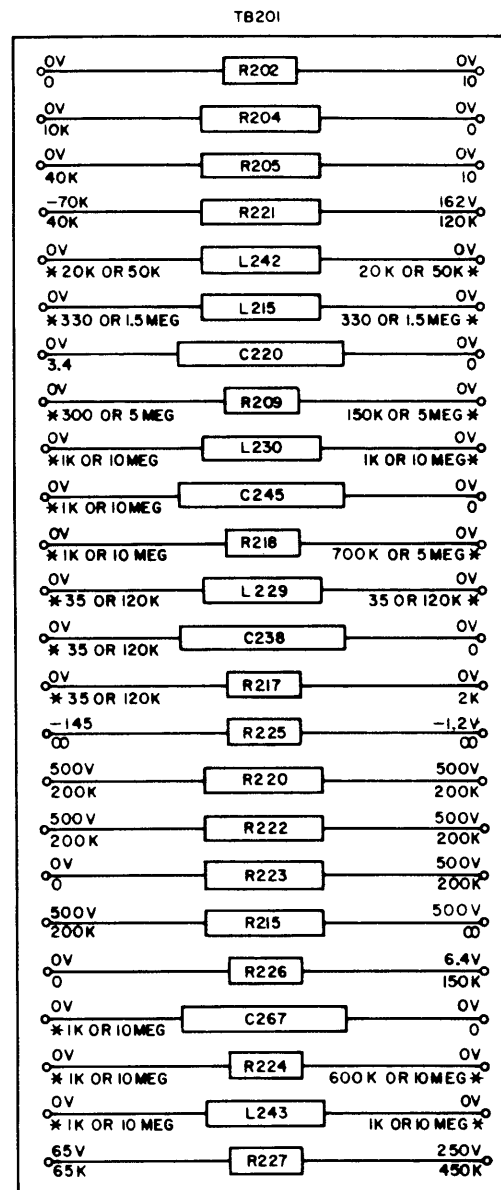
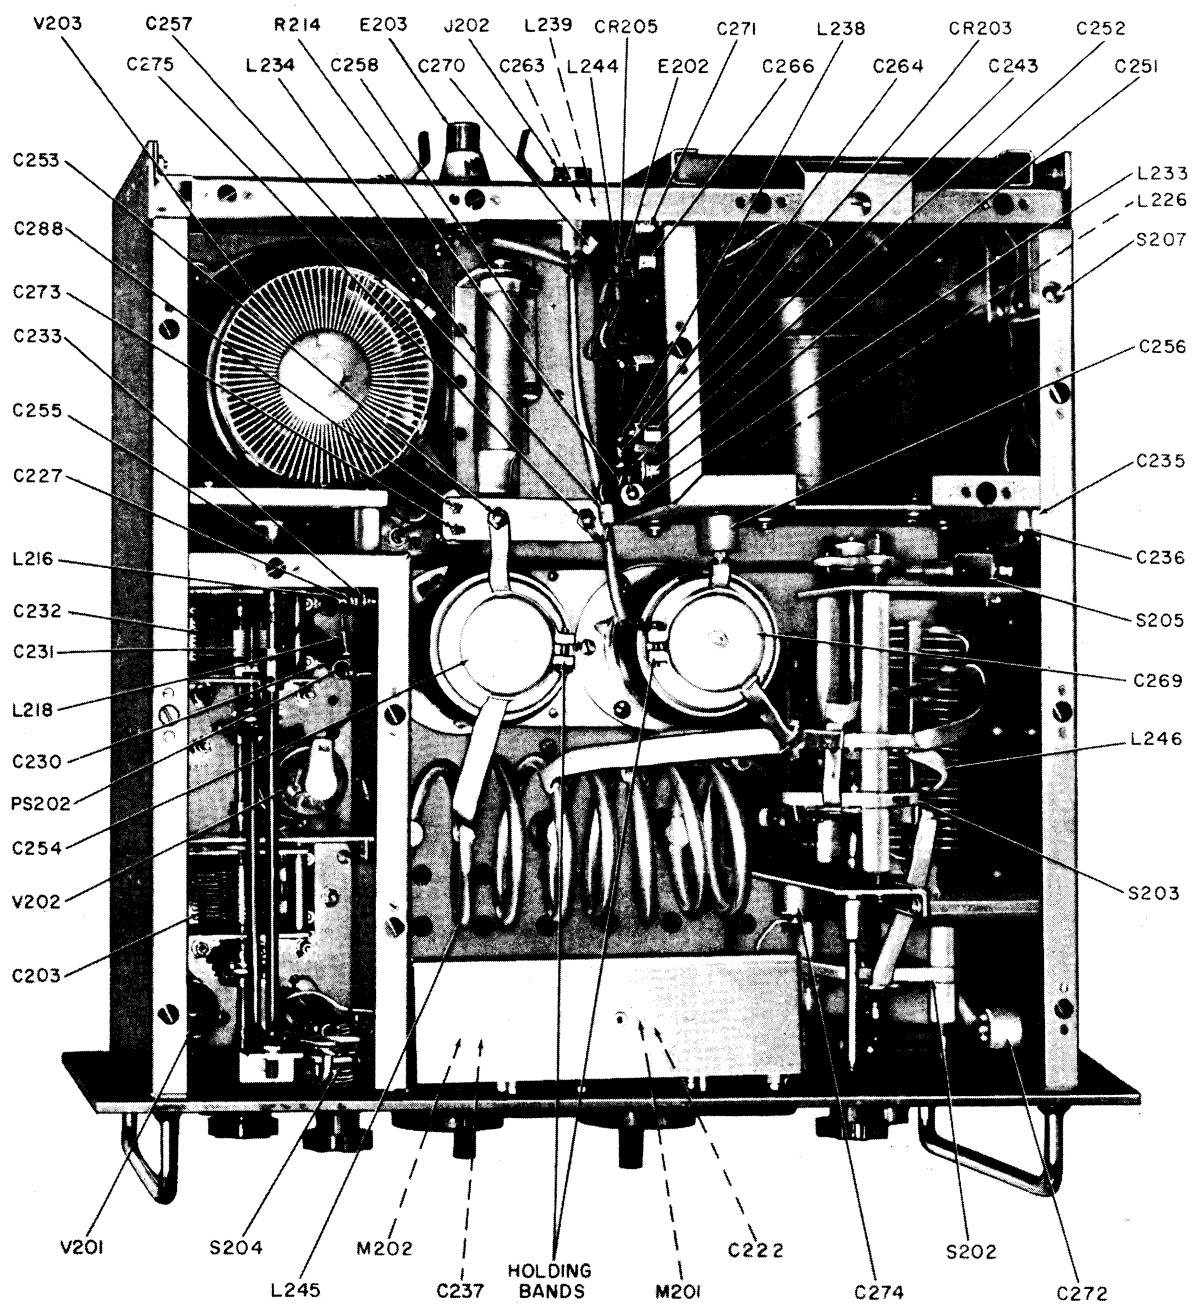

Figure 5-2. Voltage and Resistance Diagram, RFD-1A
Figure 5-4. Location Diagram of Major Electronic Components, Top View, RFD-1A
- (1) Perform a general check along the lines listed under paragraph 5-2a.
(2) If source of trouble is not revealed by (1), a performance check may be made per paragraph 5-3b(1) to reveal the troublesome area. This may be made with a signal generator and dummy load as described in 5-3b(1) or the original exciter and antenna may be used if it is more convenient. When area is discovered, single out faulty component by referring to VR charts (figures 5-2 and 5-3).
(3) If area is not revealed by (2), reference to paragraph 5-3b(2) may be helpful. This paragraph lists generalizations on some additional troubles that might occur during actual tuning and operation of PAL-1K(A) and their probable causes.
Figures 5-2 and 5-3 show nominal voltage and resistance-to-chassis measurements at vacuum tube pins and TB201 terminal block terminals in the RFD-1A Amplifier and at vacuum tube pins in the PS-4A Low Voltage Power Supply, respectively. Figures 5-4 through 5-9, are photographs showing locations of main components in these two units.